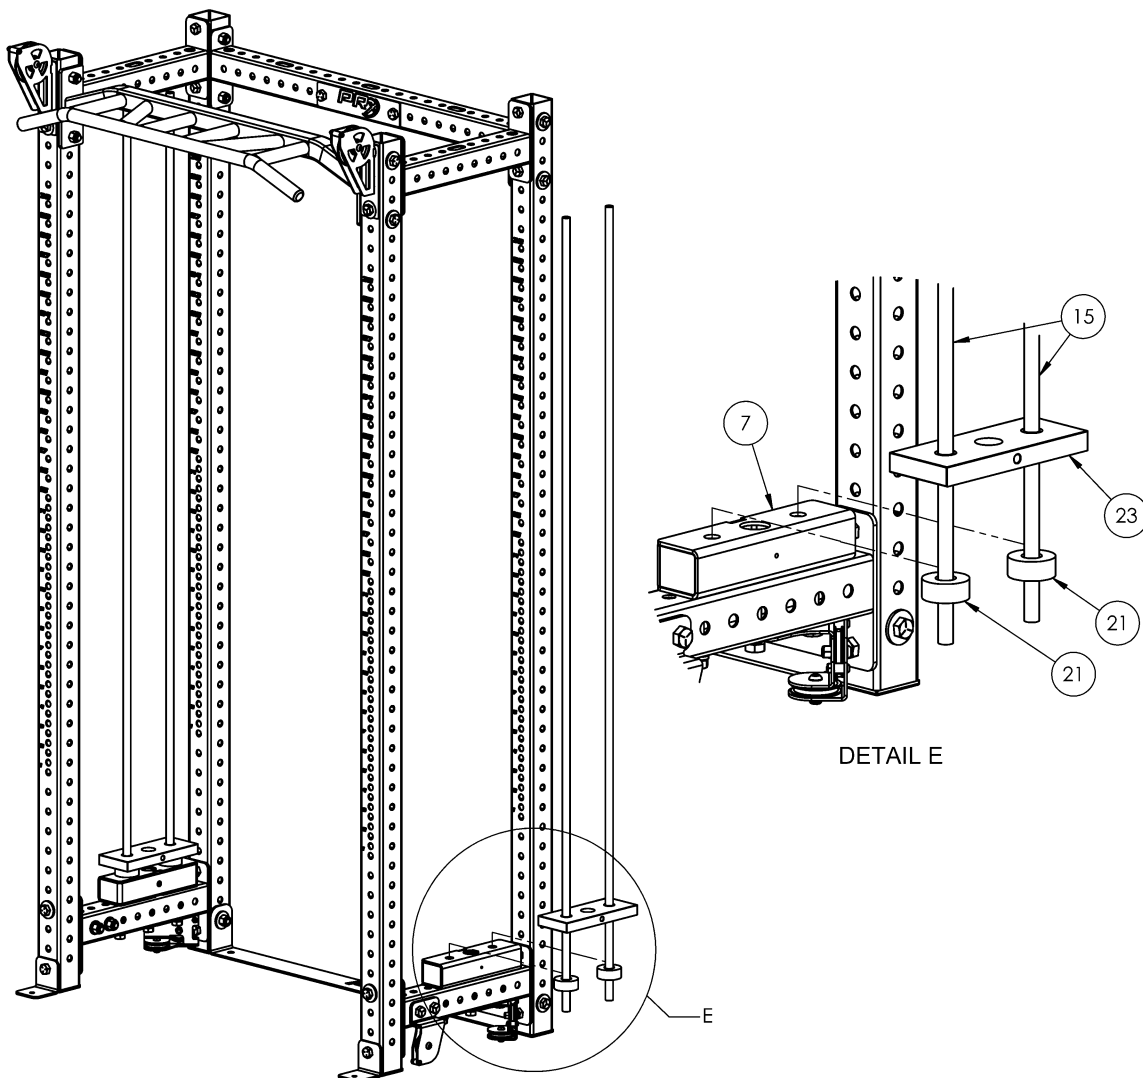

Figure 4
1. Insert the Guide Rods (15) into Bottom Stack Bracket (7). **Figure 4**
2. Slide a Rubber Bumper (21) on each Guide Rod (15). **Figure 4**
3. Begin sliding the 10lb Stack Plates (23) onto the Guide Rods (15), placing 24 plates on each side.